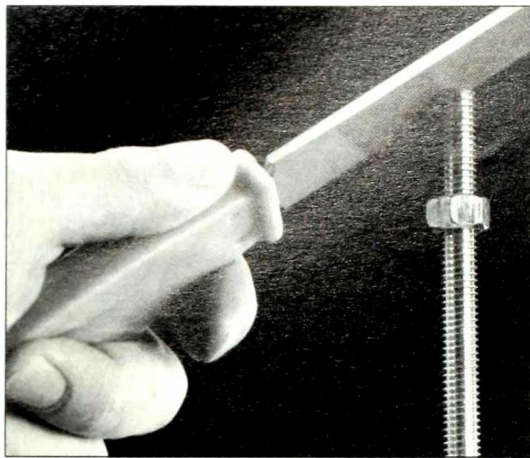

Figure 1: File cut ends of threaded rod to remove the burr. Backing the nut off will clean the threads.
- Lay out and drill all assembly holes in parts A, B, C, and D (see Pedestal Base Detail, facing page). With a hole saw, cut a 1 5/8-inch hole in the center of piece (B) for the umbrella pole.
- Lay out and drill all assembly holes in the pedestal sides (F, G). Make four pedestal side assemblies by screwing pieces F and G together and set them in position against the pedestal base. Rest the pedestal side pieces (E) on top of the pedestal base, and screw them to the assembled (F, G) pieces.
- Mark the lengths for the eight threaded rods (S) on the rod stock. Thread nuts onto the rod stock and place them below the marks for the cuts. Using a hacksaw, cut the rod pieces to length. File the rod ends (Figure 1) and then unscrew the nuts to clean the cut threads.